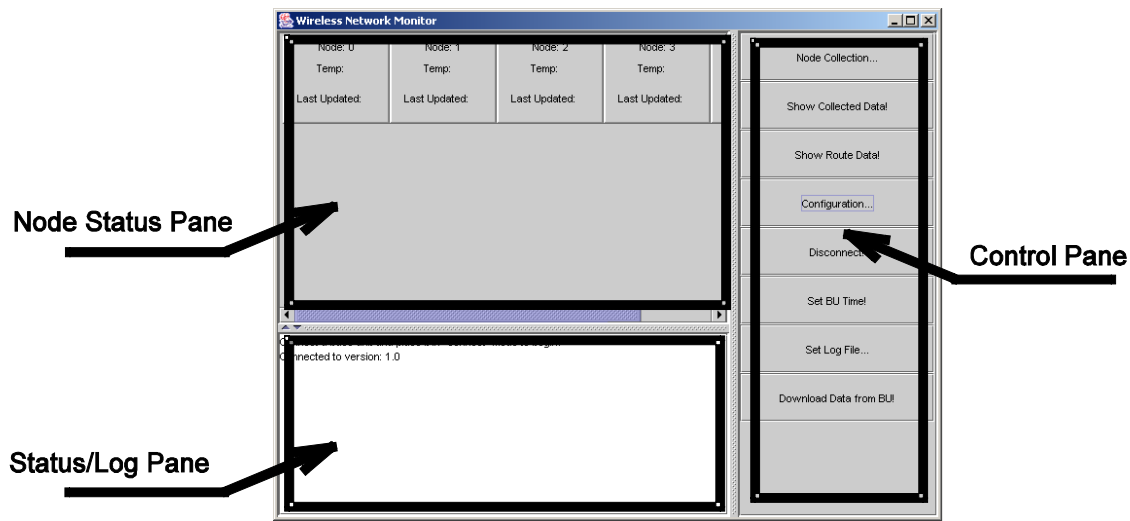

Figure 2: Network monitor screen
- The software should be started up by clicking on the  icon. The initial screen is shown in Figure 2 below.